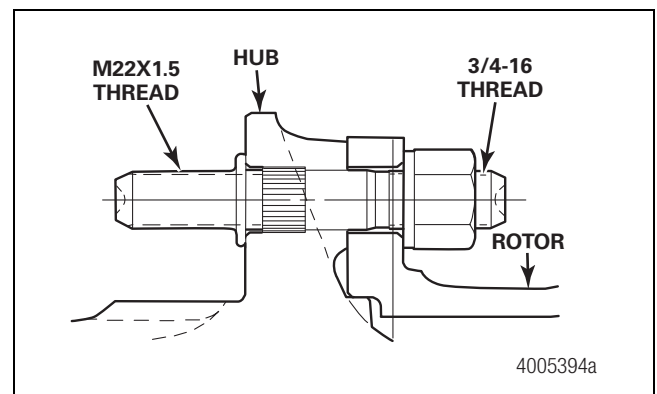

Figure 13.47
1. Tighten the inner 3/4-16 nuts to 100 lb-ft (136 N•m) to seat the wheel studs. Figure 13.47.